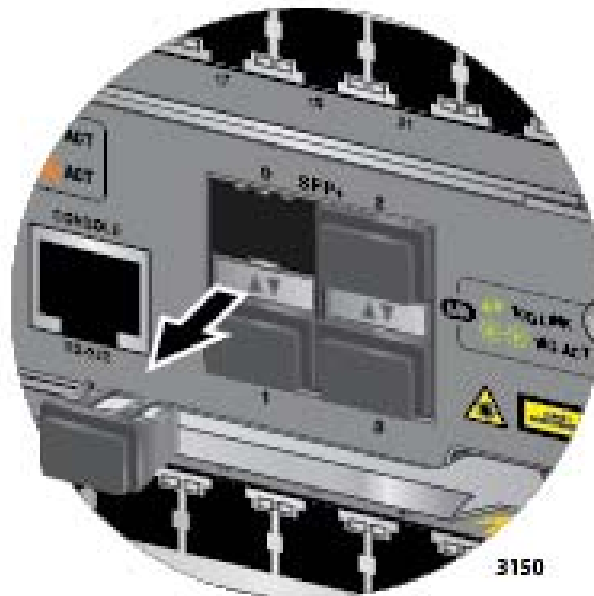

Figure 104. Removing a Dust Cover from a Transceiver Slot in the AT-SBx31CFC960 Controller Fabric Card
1. Remove the dust plug from the slot chosen for the transceiver, as shown in Figure 104.